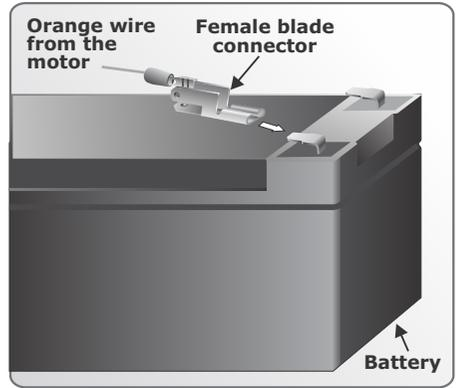

FIGURE 36
7. Connect the other orange wire by crimping it into the female blade connector (supplied) and then connecting it to the positive (+) battery terminal via the male 3-way blade expander as shown in Figure 36.